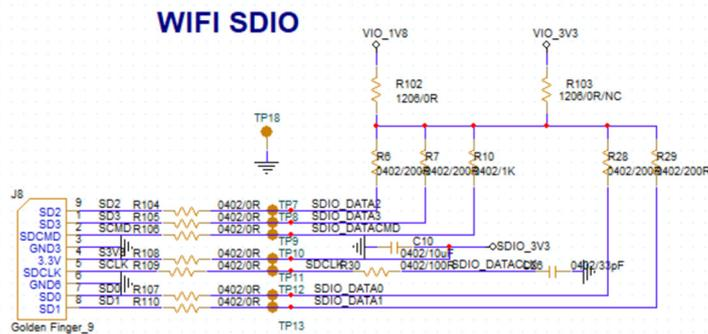

Figure2. WiFi verification connection interface to Host SDIO as using SDIO2.0
- ❖ Refer to Figure2 SDIO pin definition connects the J8 interface of AP5256V evaluation board to Host SDIO control interface.